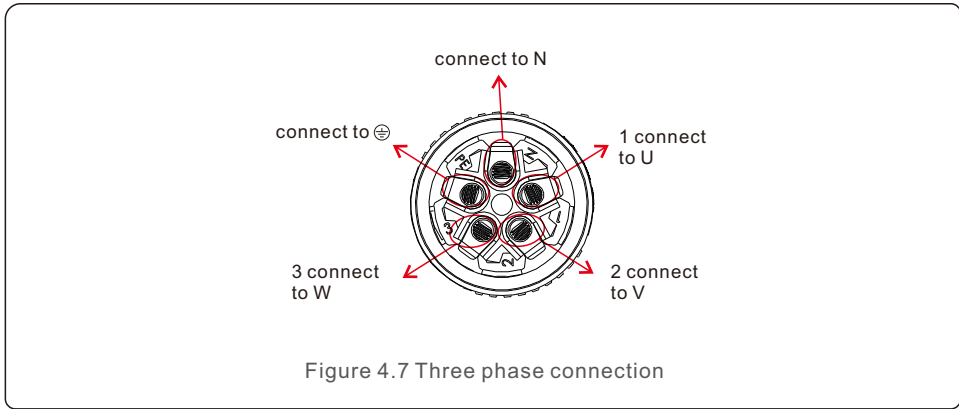

Figure 4.7 Three phase connection
- b. For three phase inverter installation connect U, V, W to pin1, 2,3 and connect N to pin4, connect PE to ⊕ (see figure4.7).